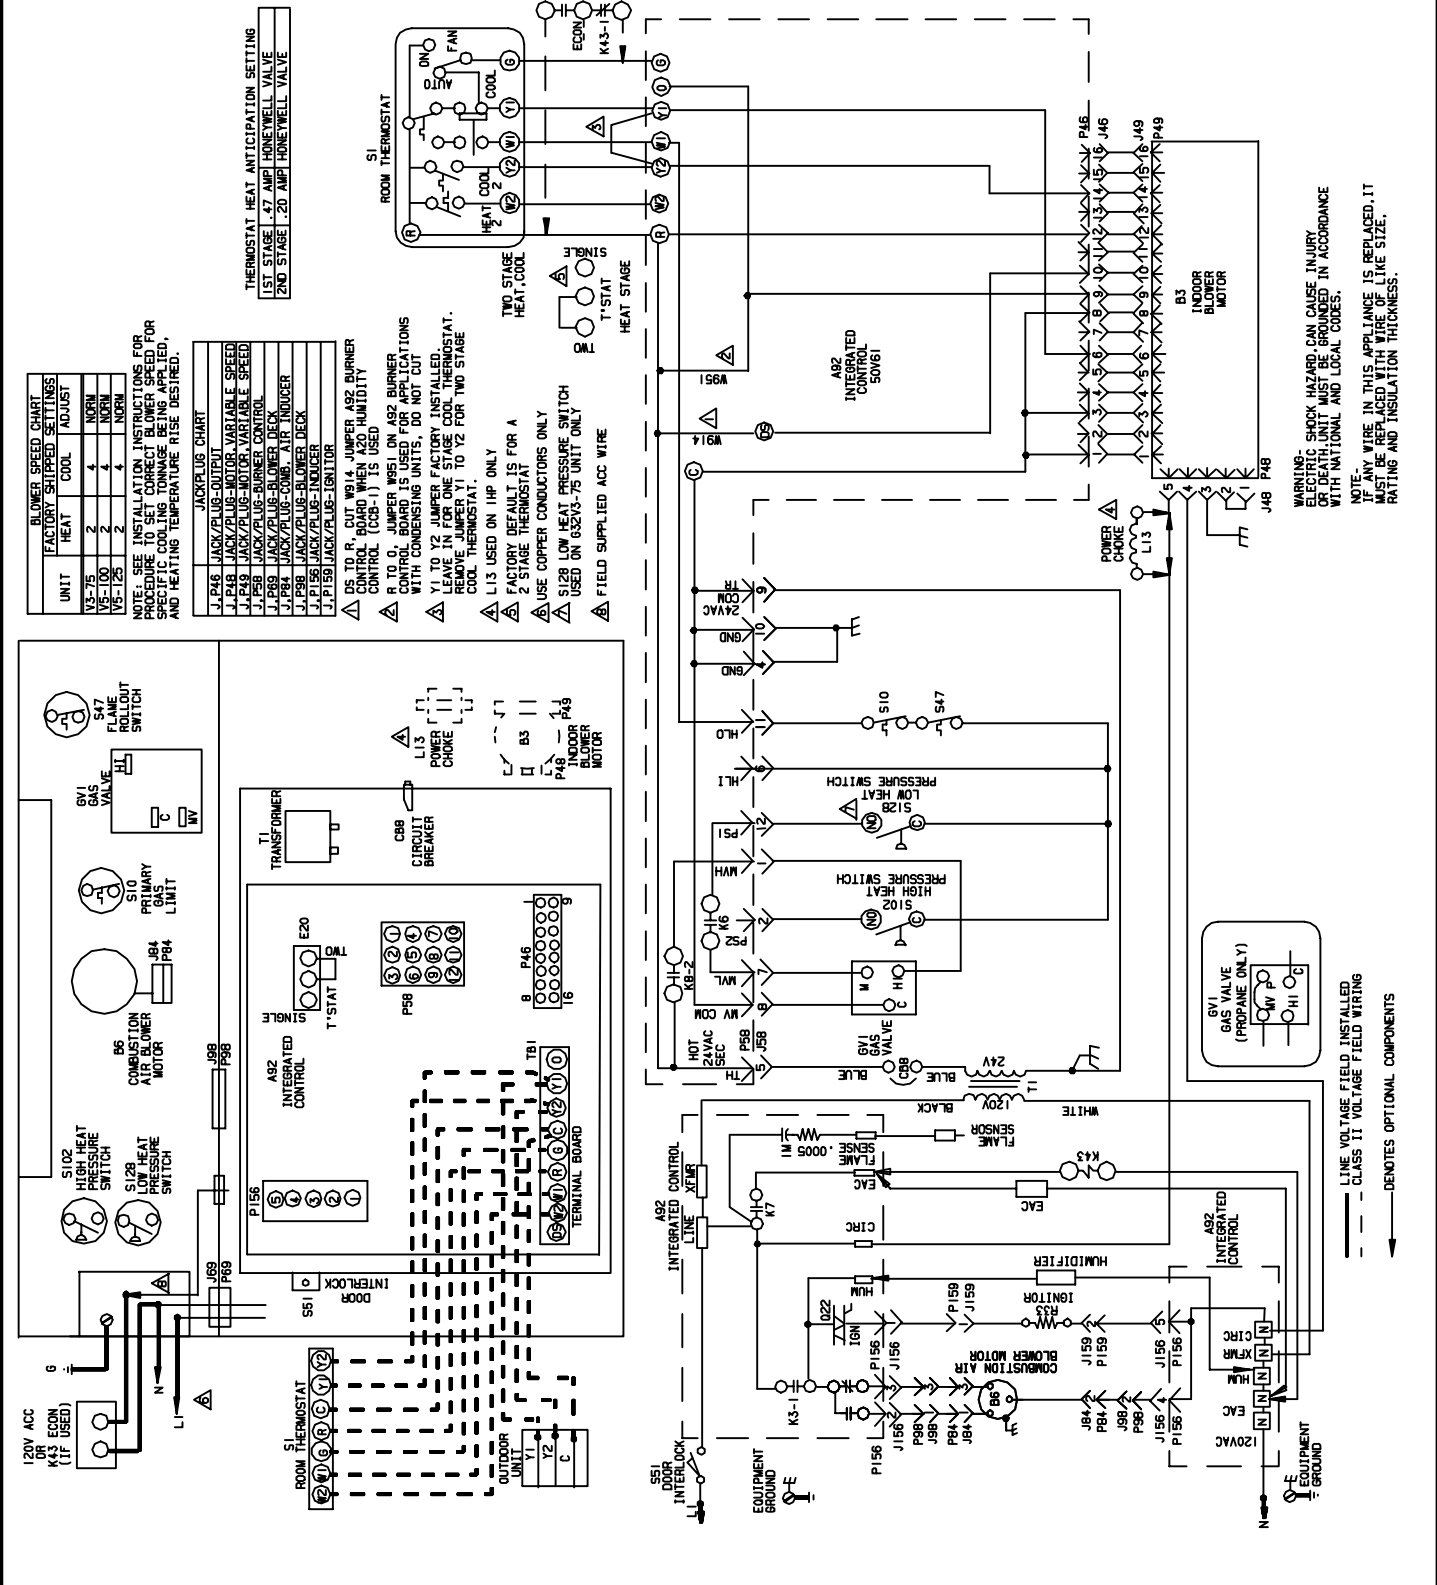
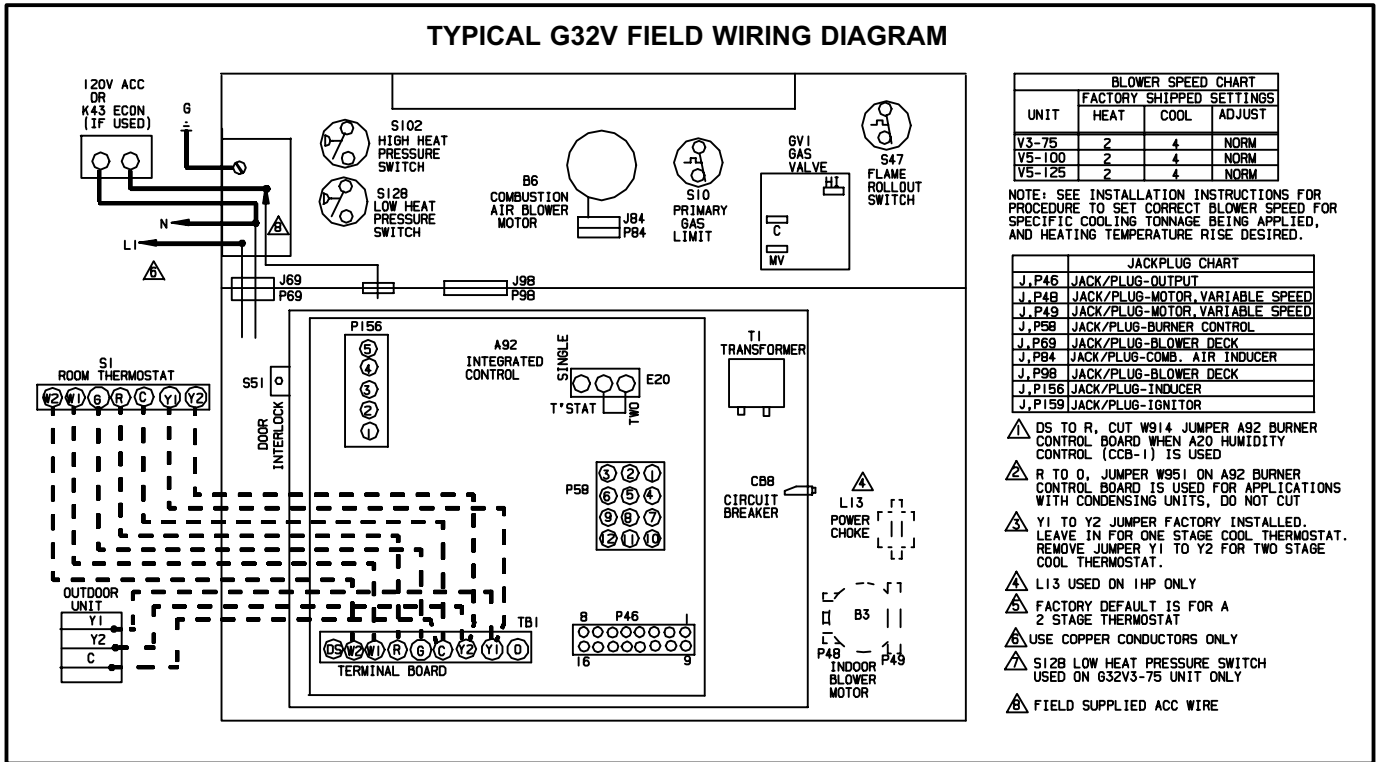
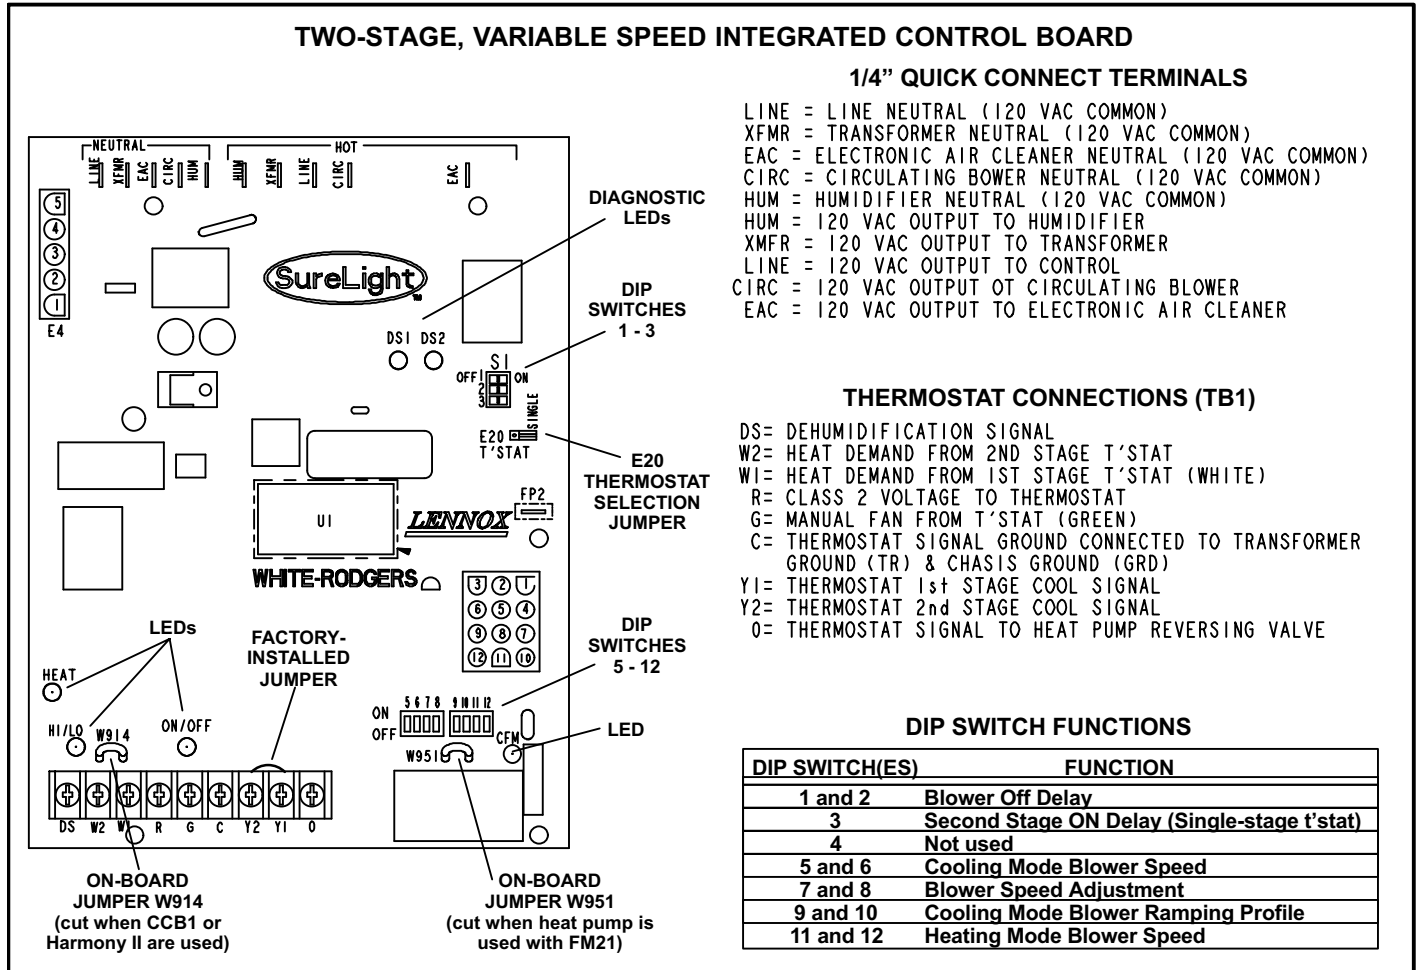

FIGURE 27
FIGURE 28
FIGURE 29
Refer to figure 27 for schematic wiring diagram and troubleshooting, figure 28 for point-to-point field wiring and figure 29 for a detailed illustration of the Surelight integrated control.
- 10 - One line voltage "EAC" terminal is provided on the furnace control board. Any electronic air cleaner rated up to one amp can be connected to this terminal with the neutral leg of the circuit being connected to the neutral "EAC" terminal. See figure 29 for control board configuration. This terminal is energized when the indoor blower is operating.
- 11 - One line voltage "HUM" terminal is provided on the furnace control board. Any humidifier rated up to one amp can be connected to this terminal with the neutral leg of the circuit being connected to the neutral "HUM" terminal. See figure 29 for control board configuration. This terminal is energized in the heating mode whenever the combustion air inducer is operating.
- 13 - Complete wiring connections to equipment using wiring diagrams provided with unit and figures 27 and 28. Use 18-gauge wire or larger that is suitable for Class II rating for thermostat connections. See table 7 for diagrams for specific applications.